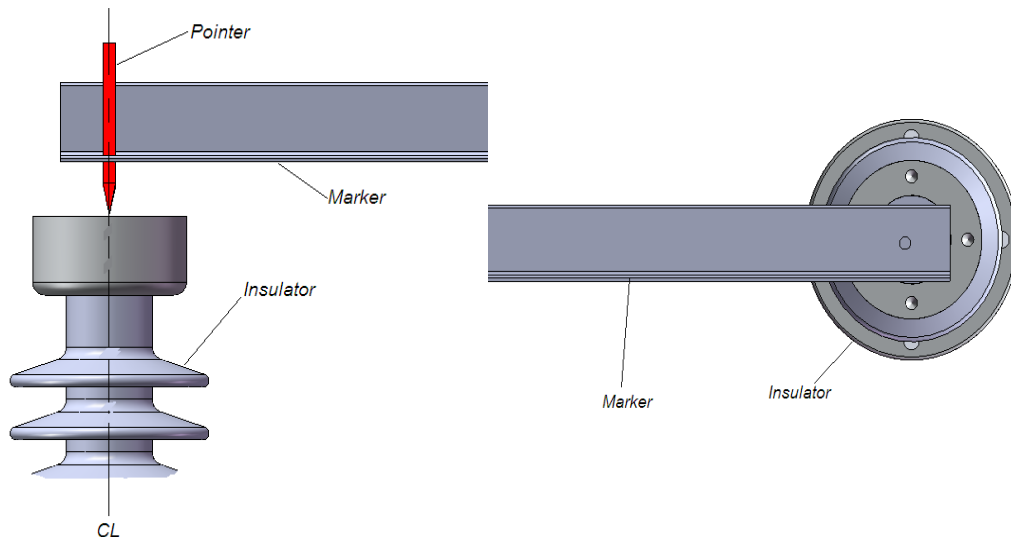

Figure 6: Marker Placement
- 8.2. Slide blades for proper engagement, see figure 6.